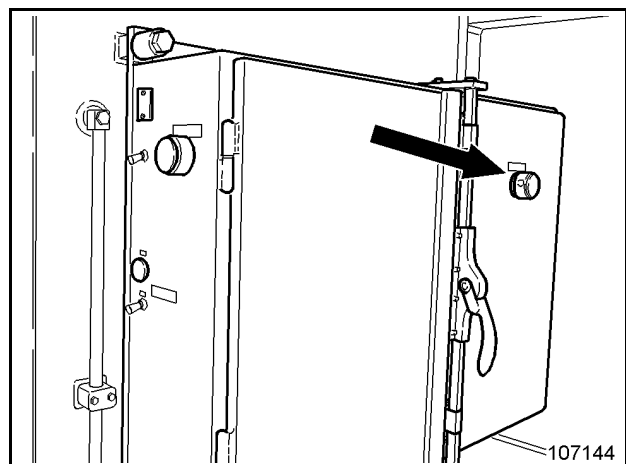

Fig. 2-34:
- by pressing the switch (red) on the control cabinet in the engine module (Fig. 2-34:),